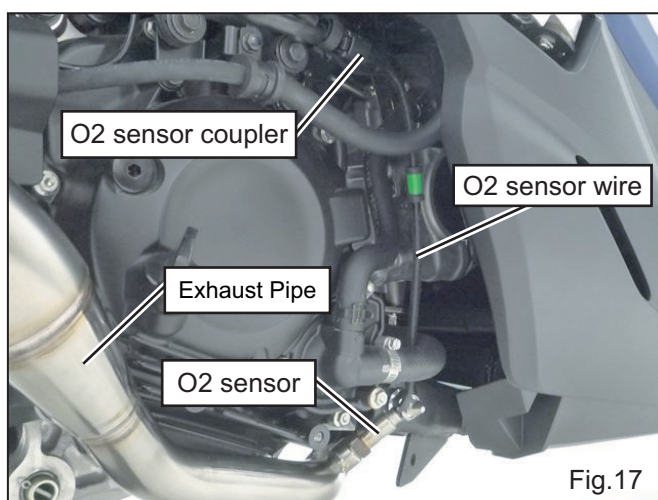

Fig.17
- 13) Locate O2 sensor wire as shown in Fig. 17 & 18, fix the wire with Stock harness clamp and reconnect coupler on vehicle. Then reattach ignition coil cover which was removed at Step 4). (See Fig. 19)